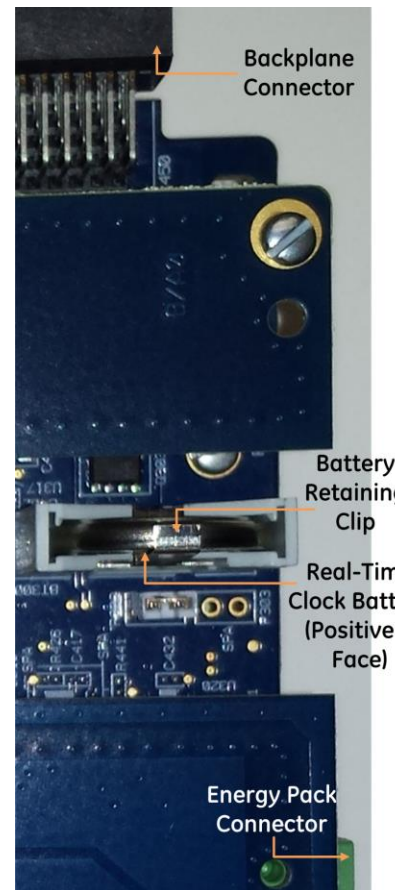

Figure 12: Location and Orientation of Real-Time Clock Battery in CPE330
The CPE330 is shipped with a real-time clock (RTC) battery installed (see Figure 12). There is no isolation barrier between the battery and the circuit. This battery will need to be replaced periodically. Typically, no action is required during initial installation.
7. Remove the sheet metal. This exposes the circuit board, connectors and coin battery shown in Figure 12.
10. Install the replacement battery so that the inscribed positive face is towards the green connector (i.e. downwards as shown in Figure 12).